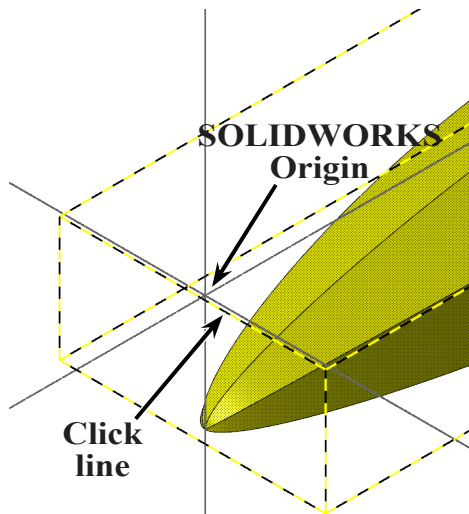

Fig. 18
- Step 4. Click **top front line** of bounding box, Fig. 18.